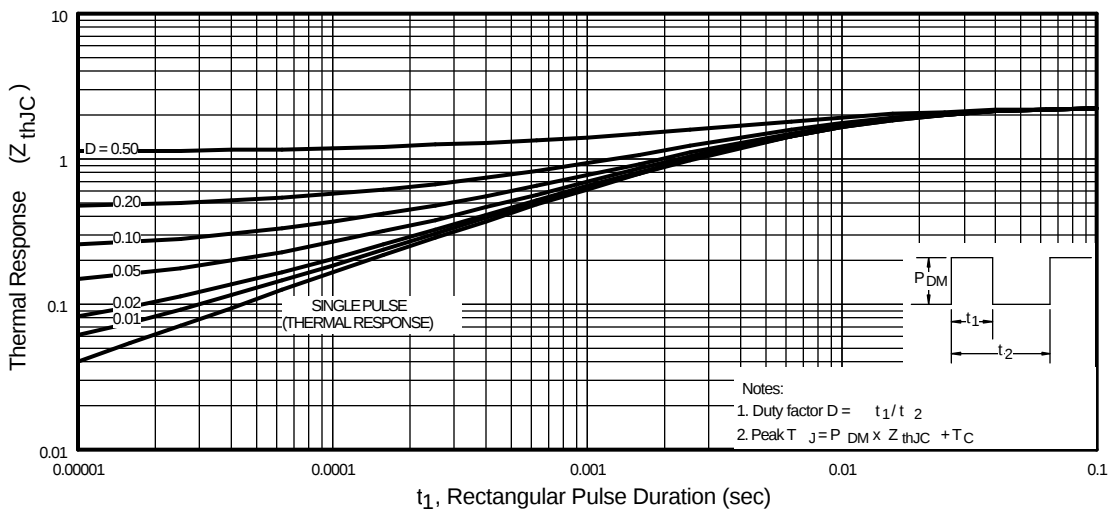

Fig 11. Maximum Effective Transient Thermal Impedance, Junction-to-Case
① Repetitive rating; pulse width limited by max. junction temperature. (See fig. 11)
③ $I_{SD} \leq 16 A$, $di/dt \leq 420A/\mu s$, $V_{DD} \leq V_{(BR)DSS}$,